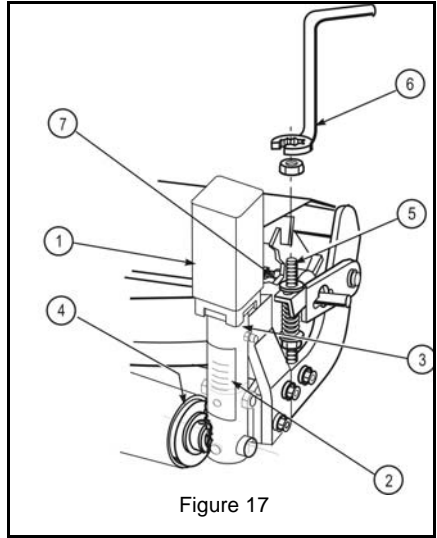
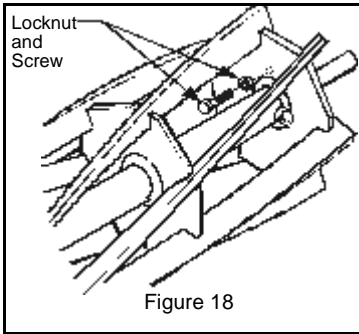

Figure 17
Figure 18
To set the height of cut, lift the Socket/Vinyl Cap of the Dial-A-Height™ (1, Figure 17) up then turn clockwise (viewed from above) to lower the roller (4, Figure 17) (raise the height of cut), or counter-clockwise to raise the roller (lower the height of cut).
The Height Adjustment Scale Decal (2, Figure 17) will provide approximate height of cut corresponding to the Socket/Vinyl Cap rotation.
1. Sight along the bottom edge of the Adjuster Tube (3, Figure 17) to achieve the desired cut height.
The reel is adjusted to a fixed position bedknife. This makes a more rugged and durable frame and retains proper adjustment longer. The reel adjuster bolt (5, Figure 17) regulates the reel distance from the bedknife.
1. To reduce the distance, turn the locking hex nut on each side of the reel down with special reel adjustment wrench (6, Figure 17) and then tighten top nut.
1. Loosen the lock nut on the adjustment screw (7, Figure 17) and (Figure 18), (inside right end of the reel) and turn adjustment bolt in 1/2 turn or less. Do not over tighten as excessive bearing wear can occur.